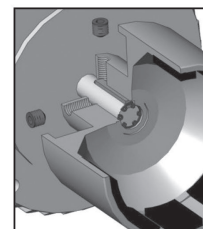

Figure 7
**NEMA Motors:** Install set screws (item 13B) into threaded holes on the side of the outer drive magnet assembly. Using a 3/16" Allen bit & torque wrench, tighten to 228 in-lbs (25.8 N-m). See figure 7.